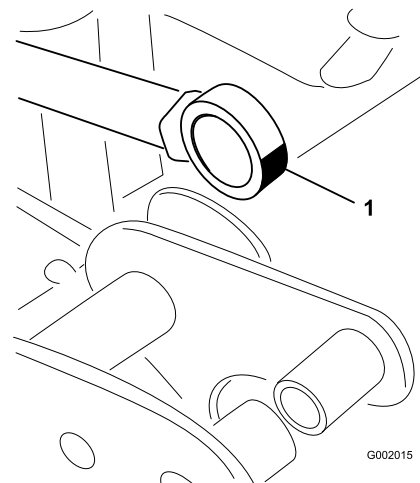

Figure 108
5. Swivel the rod-end bearing and apply grease into the bearing (Figure 108).